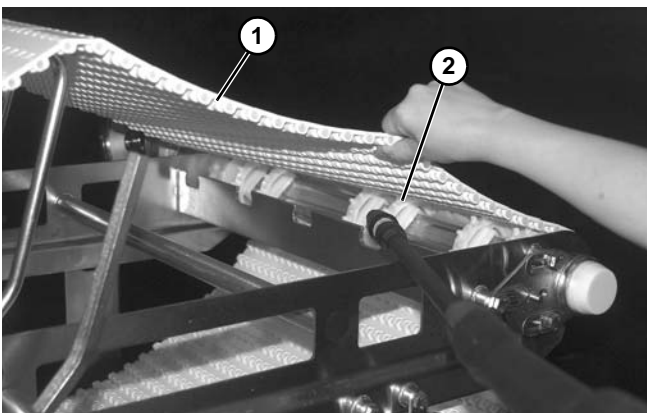

Figure 7
- c. Under belt (**Figure 7, item 1**) and around drive end sprockets (**Figure 7, item 2**).